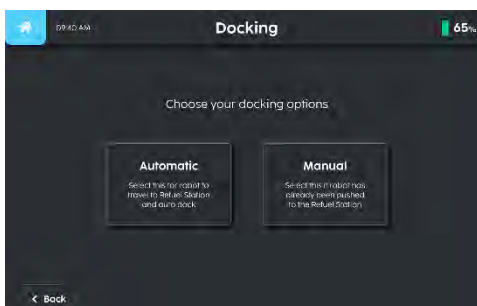

Fig. 2
3. Select the means of docking robot via Automatic or Manual Mode (Fig 2).